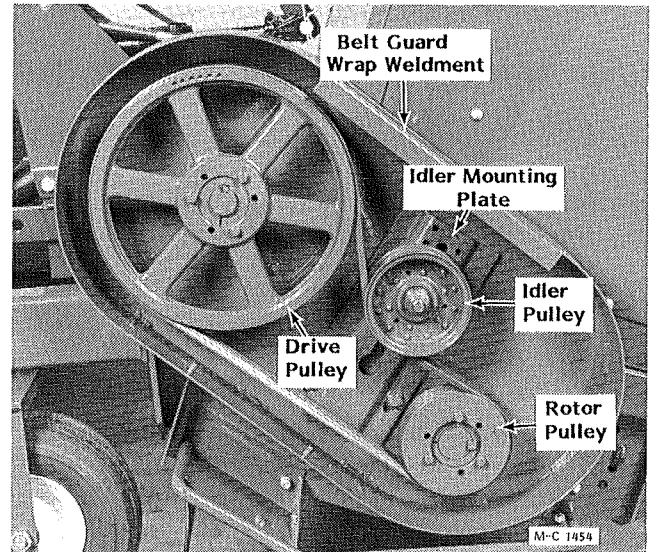

Figure 19
2. Loosen the idler pulley carriage bolt. (See Figure 19)